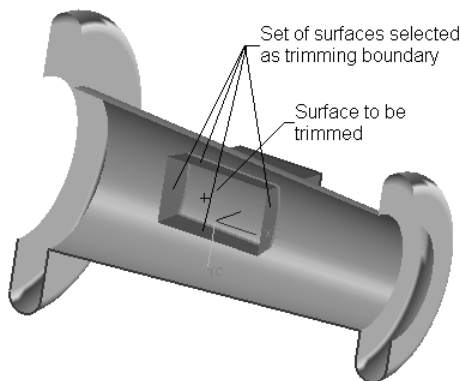

Figure 11-77 The surface to be trimmed and the trimming surfaces selected from the model
2. Select the sheet to be trimmed, as shown in Figure 11-77. Make sure that you select the sheet using the selection points, shown in the figure. After selecting the target sheet body, press the middle mouse button; you are prompted to select the trimming objects.
3. Select the trimming surfaces, as shown in Figure 11-77. Make sure that you select the surfaces using the points shown in the figure.